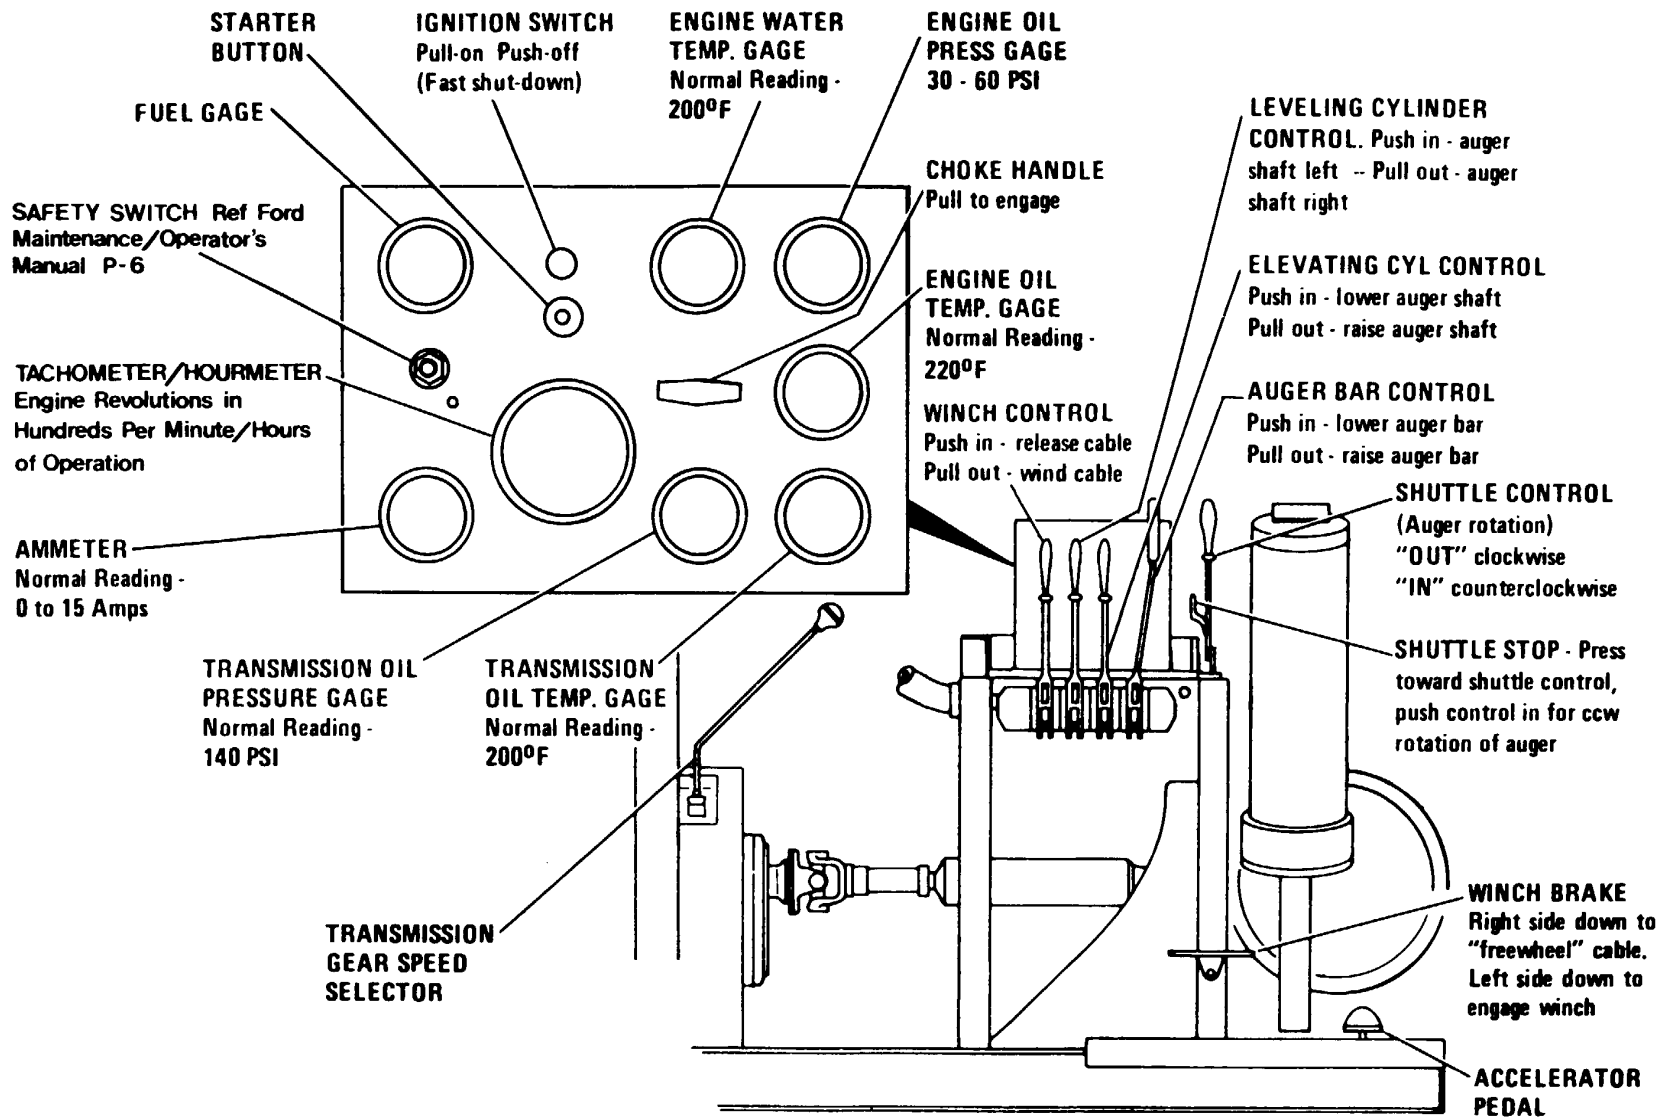

Figure 2-3. Controls and instruments.
The purpose, location, and use of the controls and normal readings of the instruments and gauges are illustrated in figure 2-3.
(1) Perform the preventive maintenance service (para 3-5).
(2) Place all controls in neutral position (fig. 2-3).
(3) Open the fuel shut-off valve on the fuel strainer beneath the fuel tank.
##### b. Starting (fig. 2-3).